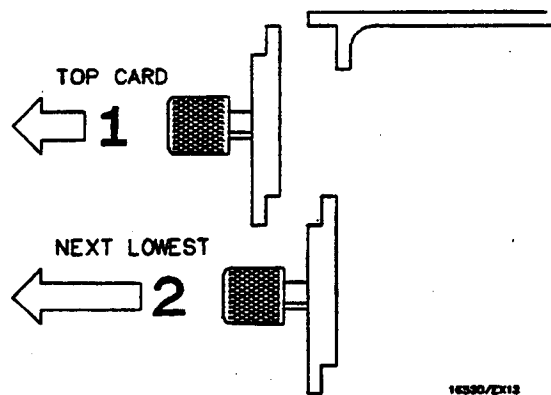

Figure 2-1. Endplate Overlap
- c. Starting from the top, begin pulling card(s) and filler panel(s) out half way. See figure 2-1.